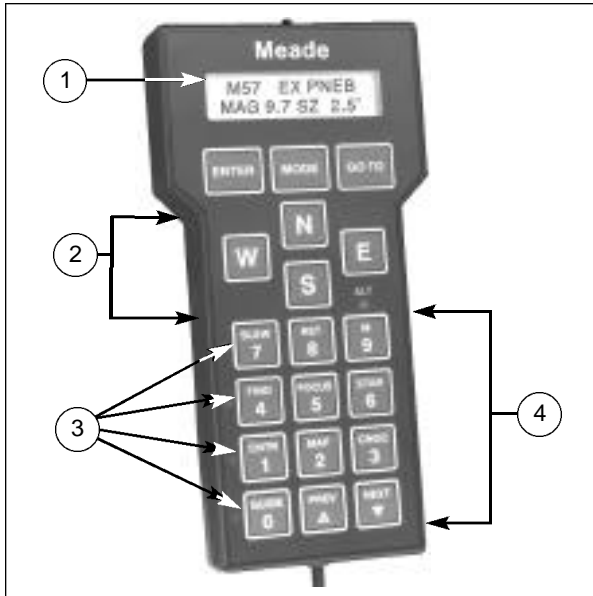

Fig.6: Keypad hand controller. (1) Display; (2) Direction keys; (3) Speed indicator LEDs; (4) Speed selection keys.
4. On the power panel, turn on the LX200 power switch. The keypad display (1, Fig. 6) will show MEADE for several seconds as the microprocessor performs a diagnostic self-test. When the test is complete, the display shows TELESCOPE on the top line and OBJECT LIBRARY on the lower line. The red LED light next to the SLEW button will light up.
5. At this point the LX200 is ready to use. Select the speed at which you want to move the telescope by pressing the appropriate speed-selection key (4, Fig. 6). You will be able to see the telescope move only in the SLEW and MOVE modes.
You can see CNTR (center) and GUIDE motions only while looking through the telescope. The red LED light next to the appropriate key (3, Fig. 6) lights, indicating the speed selected. Press one of the four direction keys (2, Fig. 6) to move the telescope in that direction at the selected speed.
This section presents the steps without details or explanations to keep the process simple. Next to each step is a sample of what the keypad hand controller display (1, Fig. 6) should look like after each step.